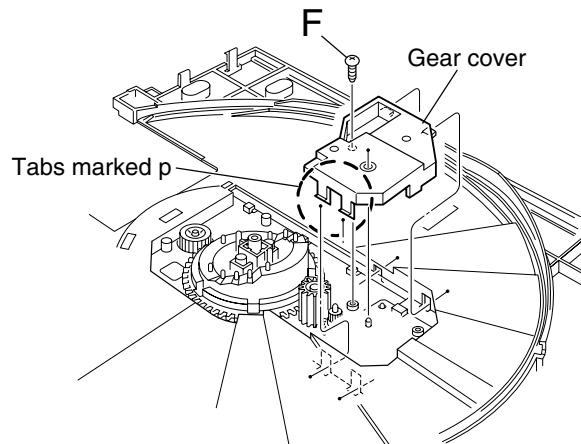
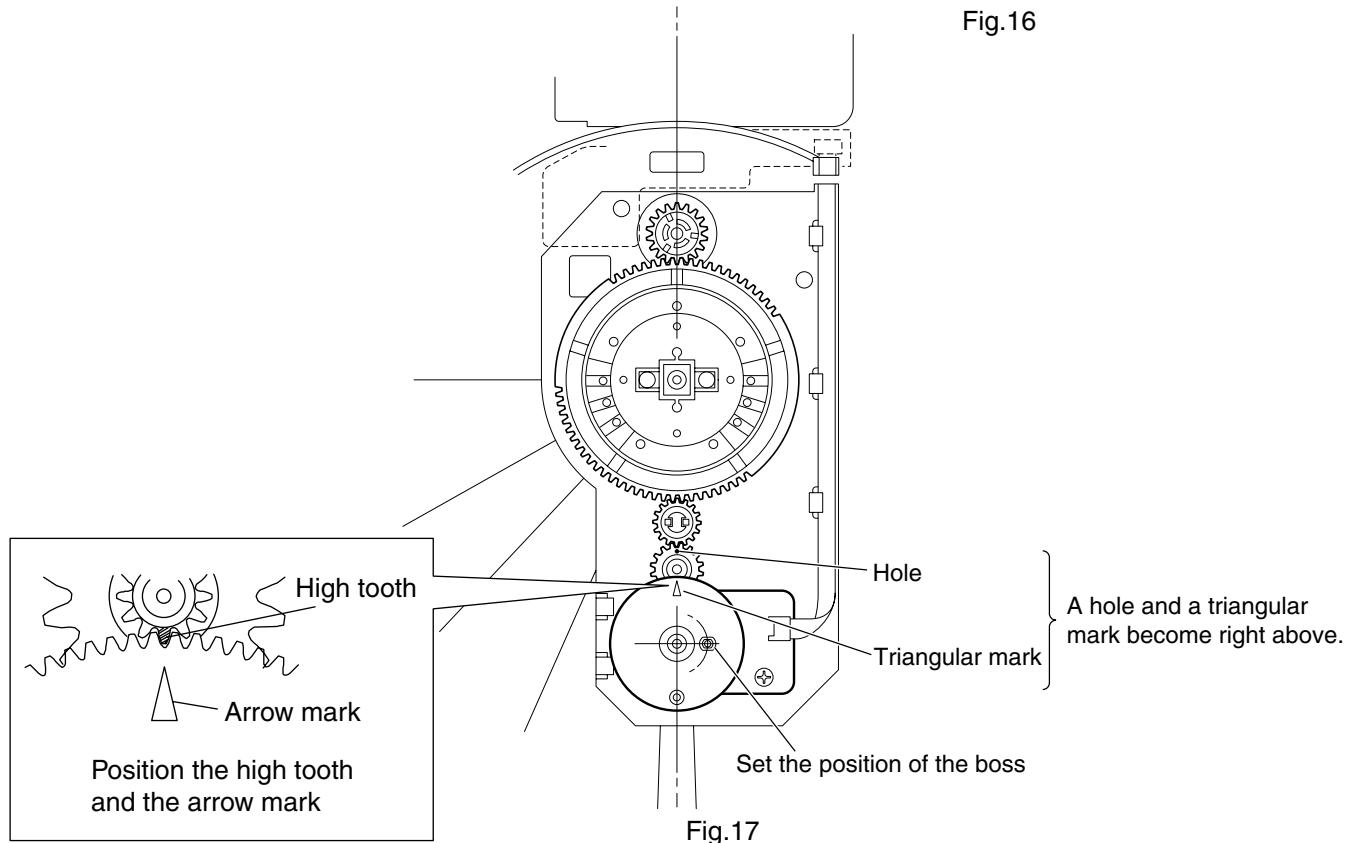

Fig.15
Fig.17
■ Removing the cam switch board assembly (See Fig.15 to 17)
- Prior to performing the following procedure, remove the main tray cover, the U/D cam (U) and the sub trays.
2. Remove the cam gear (2) upward.
CAUTION: When reattaching the cam gear (2), set the position of the boss and the triangular mark and hole as shown in Fig.17.